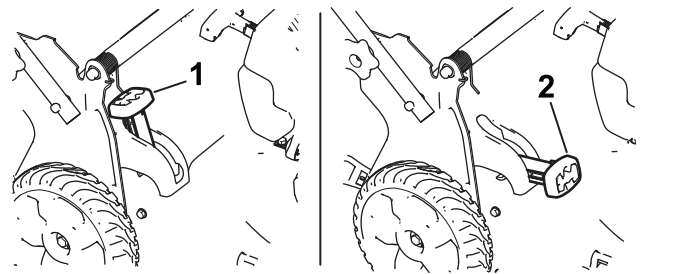

Figure 26
- **To bag the grass and leaf clippings**, press the button on the bag-on-demand lever and move the lever forward until the button on the lever pops up (Figure 26).